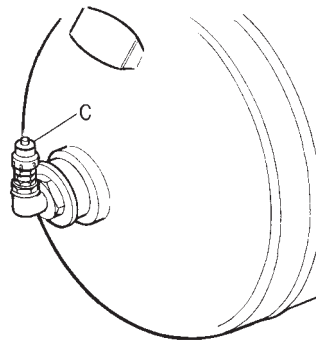

fig. 11
■ The electric compressor is provided with a safety valve set a pressure superior to that of the maximum pressure set in the air pressure switch. It is released in case the air pressure switch is damaged and opens an air outlet for exceeding air (*fig. 11*).
Control the correct functioning of the safety valve every 2000 hours of operation. Switch off the compressor when it has reached a pressure of 6-7 bar and pull the valve ring C with strength, without getting near with the face. Compressed air will be released. If when releasing it, the ring goes back in normal position and stops the air outlet, the valve is perfectly working (*fig. 11*). If otherwise contact a technician for the replacement.